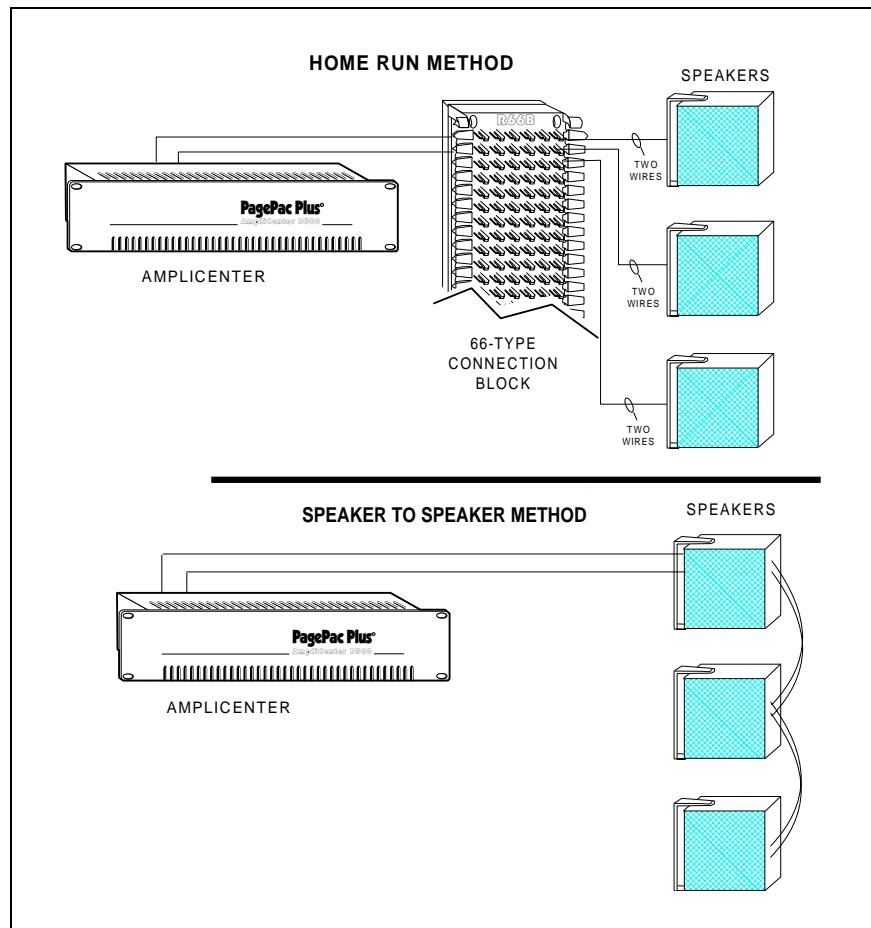

Figure 10. Speaker Run Methods
2. Connect each speaker to the appropriate home run or speaker-to-speaker wiring scheme as shown on the wiring plan (see Figure 10).